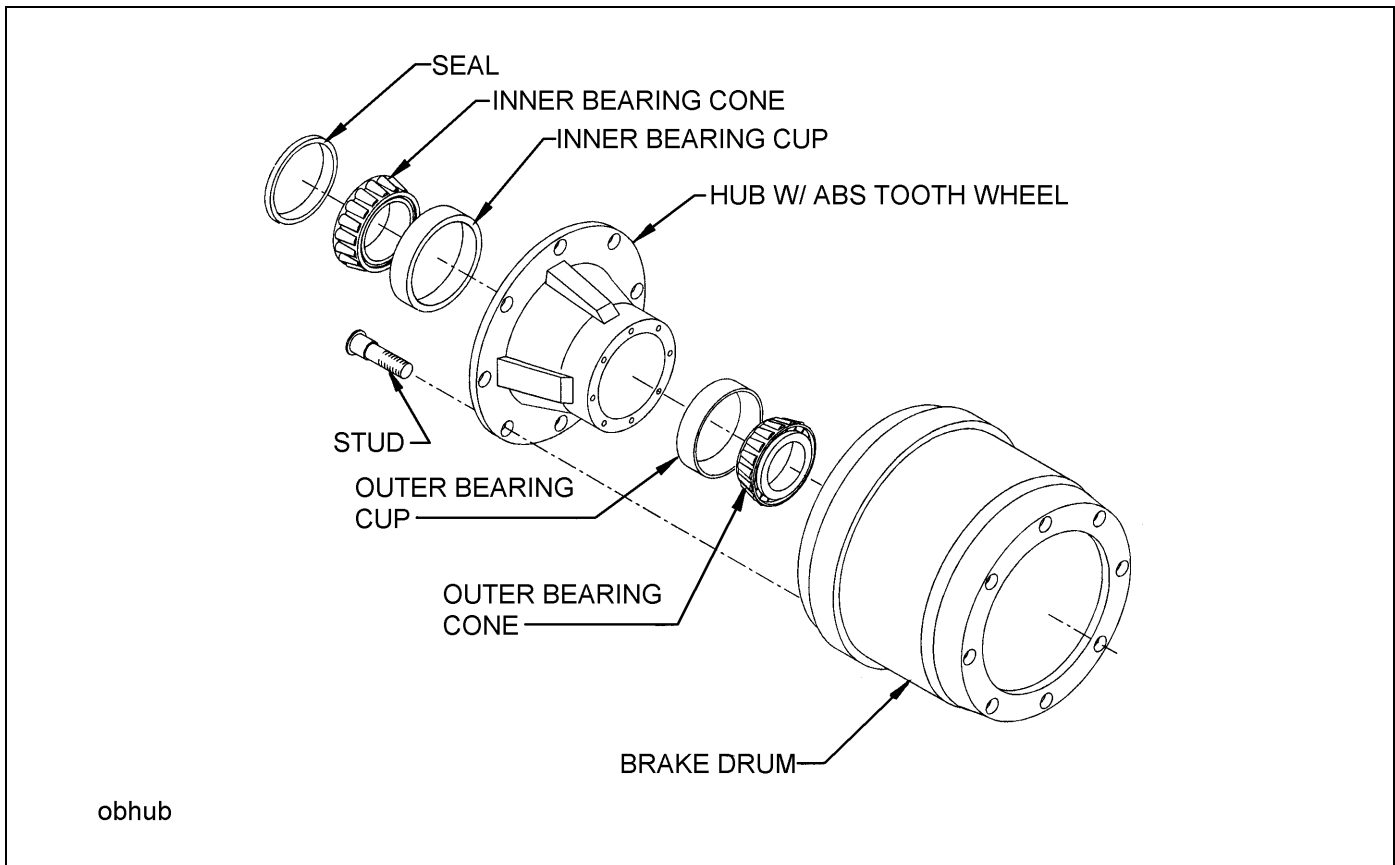

Figure 4-15: Outboard Hub and Drum
4. Replace the hub and drum as follows (**See Figure 4-15.**)
- a. Remove the brake drum (**See Figure 4-15.**) It may be necessary to release the slack adjuster.